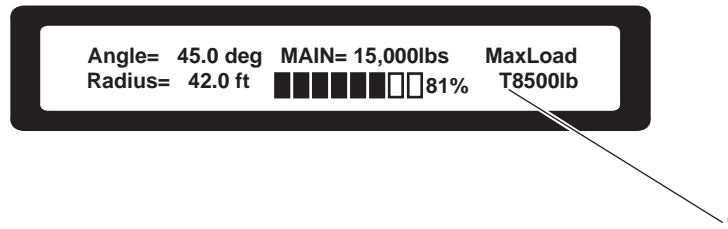

Figure 31. Primary Operating Display Screen with Tare Enabled
7. Press the MODE button (figure 2, item 3) and the down arrow button (figure 2, item 4) on the LMI receiver panel (figure 2, item 2) to return to the primary operating display (figure 10). The primary operating display will show the letter T (figure 31, item 1).